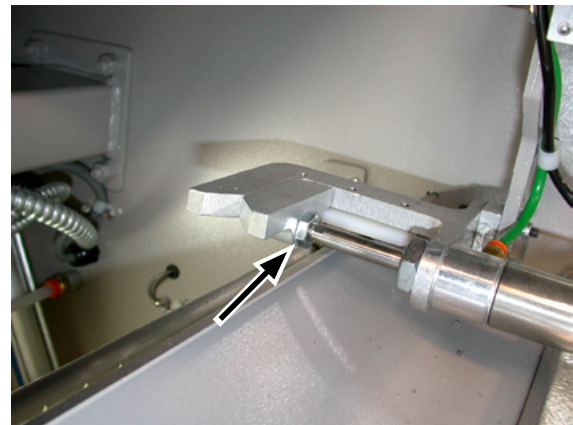

Figure 7-2: The spreader clamp air cylinder rod and jam nut.
5. Loosen the jam nut (Figure 7-2).